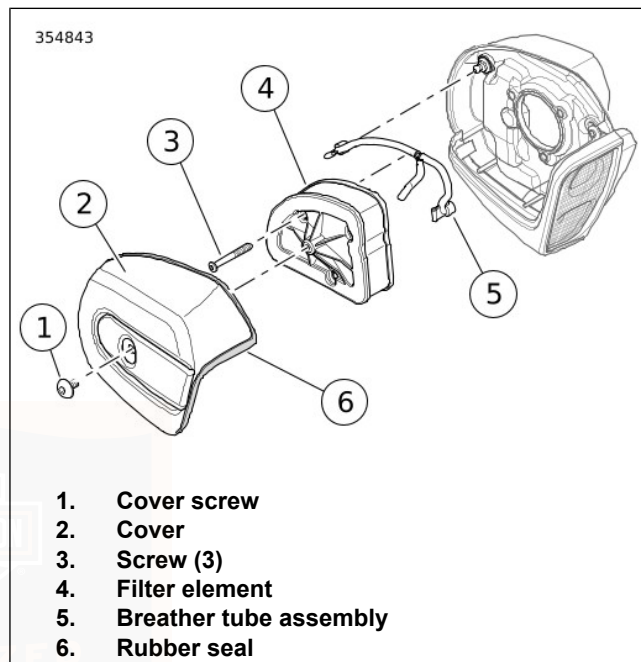

Figure 80. Air Cleaner Assembly (Standard)
1. See Figure 80. Remove screw (1) and air cleaner cover (2) with rubber seal (6).
2. Remove three screws (3).
3. Remove filter element (4) pulling breather tube from hole on inboard side.
4. Remove breather tube (5) from breather bolts.
1. See Figure 80. Install breather tube (5) onto breather bolts.
2. Install filter element (4) while pushing breather tube into element.
3. Install screws (3). Tighten screws.